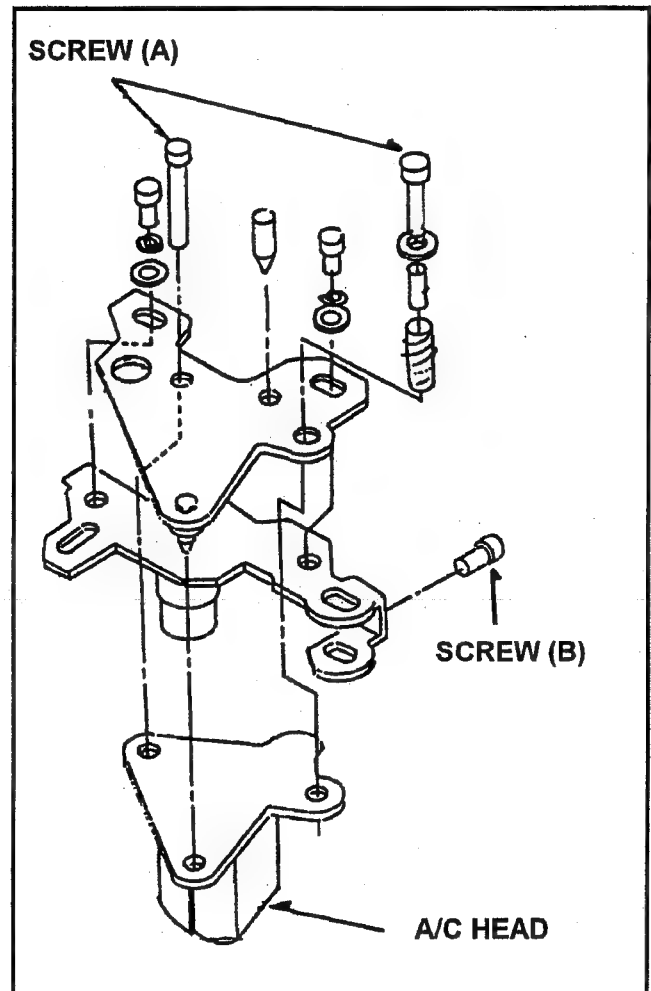

Fig. 6-2-2 Removal of A/C Head
6. Remove the 2 screws (A), then remove the A/C Head from the A/C Head Plate as shown in Fig. 6-2-2.